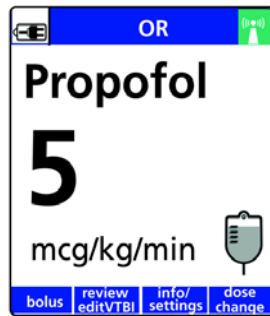

Figure 66. RUN screen for drug with bolus enabled.
1. Press the **bolus** soft key. See Figure 66.